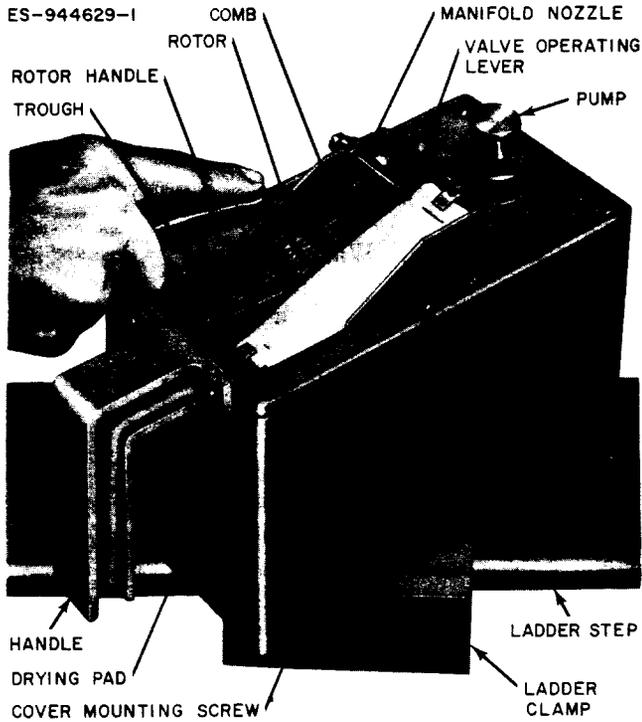
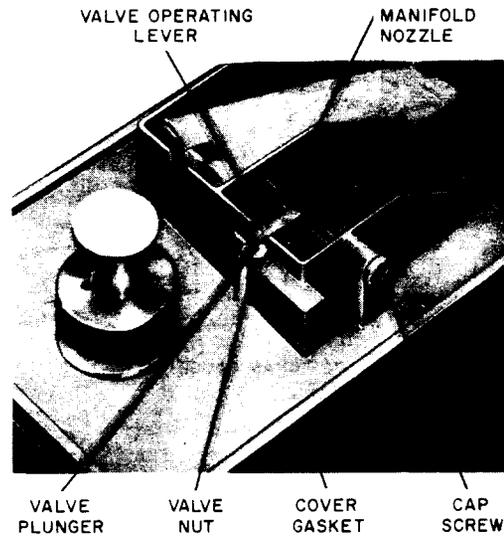

Fig. 7—Method of Flushing KS-16062 L2 Rotor Using KS-16297 L50 Flushing Unit
Fig. 8—Partial View of KS-16297 L50 Flushing Unit Showing Manifold Nozzle and Associated Parts
5.03 **KS-16297 L50 (MD) Flushing Unit**
(Fig. 7 and 8): The flushing unit is provided to flush and apply KS-16436 L1 or L2 washing fluids to the rotor discs at the bank cleaner. The procedure for using the KS-16297 L50 flushing unit is discussed in (1) through (7).
(1) The flushing unit contains two receptacles, one for used and the other for fresh KS-16436 L1 or L2 washing fluid. The tank of the unit serves as the receptacle for used fluid. Fresh liquid is poured into the can fastened to the underside of the cover of the unit. The can fits in the tank when the cover is in place on the tank.
(2) The cover of the unit has an inclined trough with a comb of eight wires extending the length of the trough. At the upper end of the trough, the manifold nozzle feeds fresh liquid, under pressure, to the rotor discs being flushed when the associated valve is opened by pressing the rotor discs against the valve operating plate. The valve can also be opened manually by depressing the lever on the operating plate to flush the KS-16365 wiper cleaner used for cleaning wipers and commutator contacts. A coil spring on the lower part of the valve plunger holds the valve closed and the valve operating plate in its normal position. At the lower end of the trough are several holes for draining used liquid into the tank.
(3) The fresh liquid passes through a filter before entering the manifold nozzle. The filter is held in a retainer which screws against the flared end of the nozzle and holds the nozzle in position. The cap screw shown in Fig. 8. closes the access hole to the filter and nozzle.
(4) Adjacent to the flushing trough is the drying pad for removing excess liquid from the rotor discs after flushing. This pad should be replaced after approximately 25,000 banks have been cleaned. Replacement is recommended after this use because of wear and clogging of the pad, which reduces its absorbent properties.
(5) The fresh liquid is put under pressure by the pump mounted on the cover of the unit and extending into the can containing the fluid.
(6) The flushing unit is filled with fresh liquid by removing the pump and pouring the liquid from the washing fluid can through a commercially available funnel into the flushing unit tank or if still available the KS-16366 filler can. Used liquid is drained from the tank by removing the drain plug in the opposite end of the tank from the handle.
(7) The flushing unit is mounted on a U-shaped spring clamp to hold the unit to the step of a ladder as shown in Fig. 7. A swivel joint is provided between the unit and the clamp so the unit may be positioned on the ladder step as desired. The bottom of the clamp serves as a base when the flushing unit is placed on a flat surface. The unit is also equipped with a handle at one end.
(1) Position the rotor in the trough of the flushing unit so six wires of the comb are sandwiched between the discs of the rotor and the remaining wires are against the outer surfaces of the end discs as shown in Fig. 7. Roll the rotor to the upper end of the trough against the valve operating plate, thus opening the valve, and saturate the rotor with KS-16436 L1 or L2 washing fluid.
(2) While maintaining pressure against the trough, roll the rotor back and forth three or four times without opening the valve. This removes some of the excess liquid from the rotor. Remove the rotor from the trough and roll it three or four times over the adjacent drying pad to further remove excess liquid. Press the rotor against the pad during this operation.
(1) Position the rotor in the trough of the flushing unit so that six wires of the comb are sandwiched between the discs of the rotor, and the remaining wires are against the outer surfaces of the end discs as shown in Fig. 7. Roll the rotor to the upper end of the trough against the valve operating plate, thus opening the valve, and flush the rotor with KS-16436 L1 or L2 washing fluid.
(2) While maintaining pressure against the trough, roll the rotor back and forth, making sure that it is saturated with liquid at the upper end of every third or fourth stroke. These operations remove the sludge and debris from the discs. When the liquid in the trough appears clear, roll the rotor back and forth three or four times without opening the valve. This removes some of the excess liquid from the rotor. Remove the rotor from the trough and roll it three